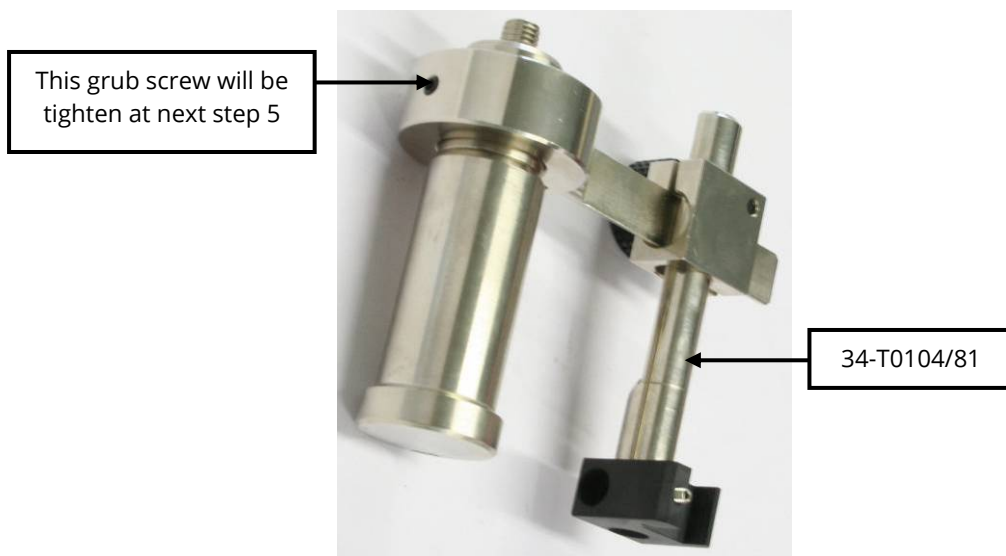

Fig. 4-17
5. Screw in the compression device plus transducer holder, install the displacement transducer P0322 (tighten the relevant fixing grub screw) and place the indirect tensile jig 76-B0078/B (or B0078/C) on the **SPEEDLOADER** lower platen centering it by means of the centering screw; then adjust the position of the displacement transducer in order its stem touches the upper bar of the stability mould and tighten the grub screw shown in previous Fig. 4-17;